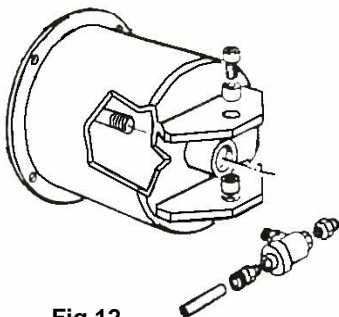

Fig 12.
- g. For cleaning or replacing the silencer of bead breaker , see fig.12 and proceed as shown on previous point 1 and 3.